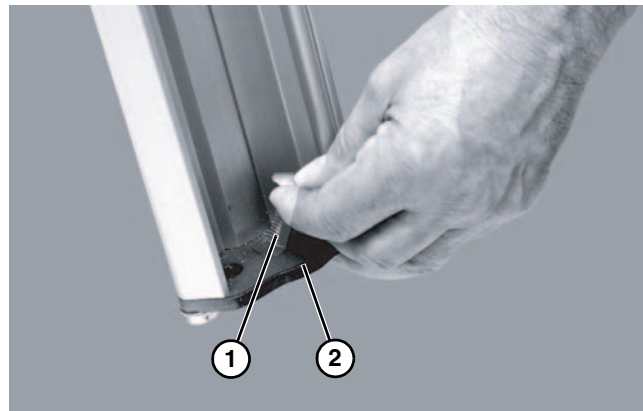
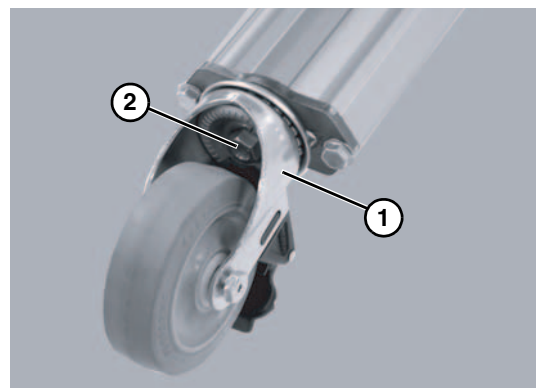

Figure 6
Figure 7
1. Install carriage bolt (Figure 6, item 1) into stand boot base plate (Figure 6, item 2).
2. Install caster (Figure 7, item 1) over carriage bolt (Figure 6, item 1).
3. Place nut (Figure 7, item 2) on carriage bolt. Tighten nut to 177 in-lb (20 N-m).